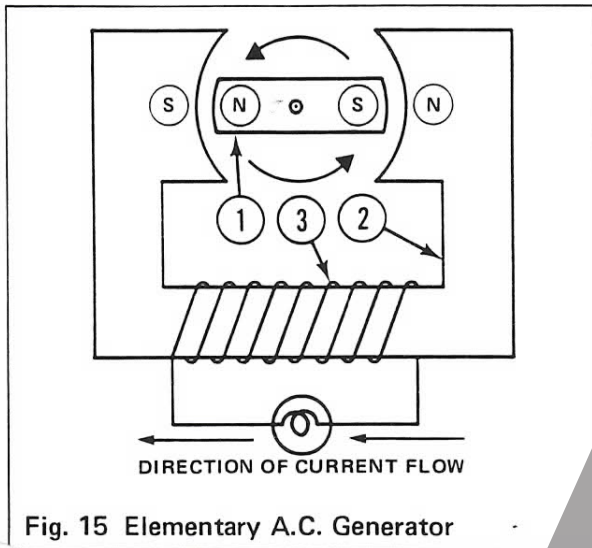

Fig. 15 Elementary A.C. Generator
Fig. 15 & 16 show an elementary A.C. generator. A permanent magnet ① is suspended within a soft iron frame ② which completes the circuit for the permanent magnet's lines of force. The soft iron frame thereby becomes a temporary magnet, concentrating lines of magnetic force around the wire coil ③.
The elementary A.C. generator shown in Fig. 15 & 16 has a two-pole rotating magnet and a two-pole soft iron frame. The induced current therefore reverses every 180°. A full cycle is completed every 360°.